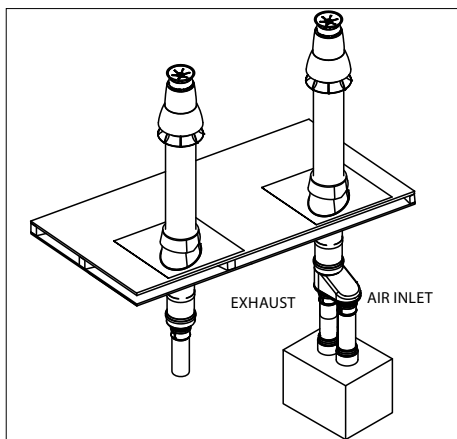

Figure 19
9. Connect Co-Linear Adapter to termination (if applicable). **(Fig.19)**